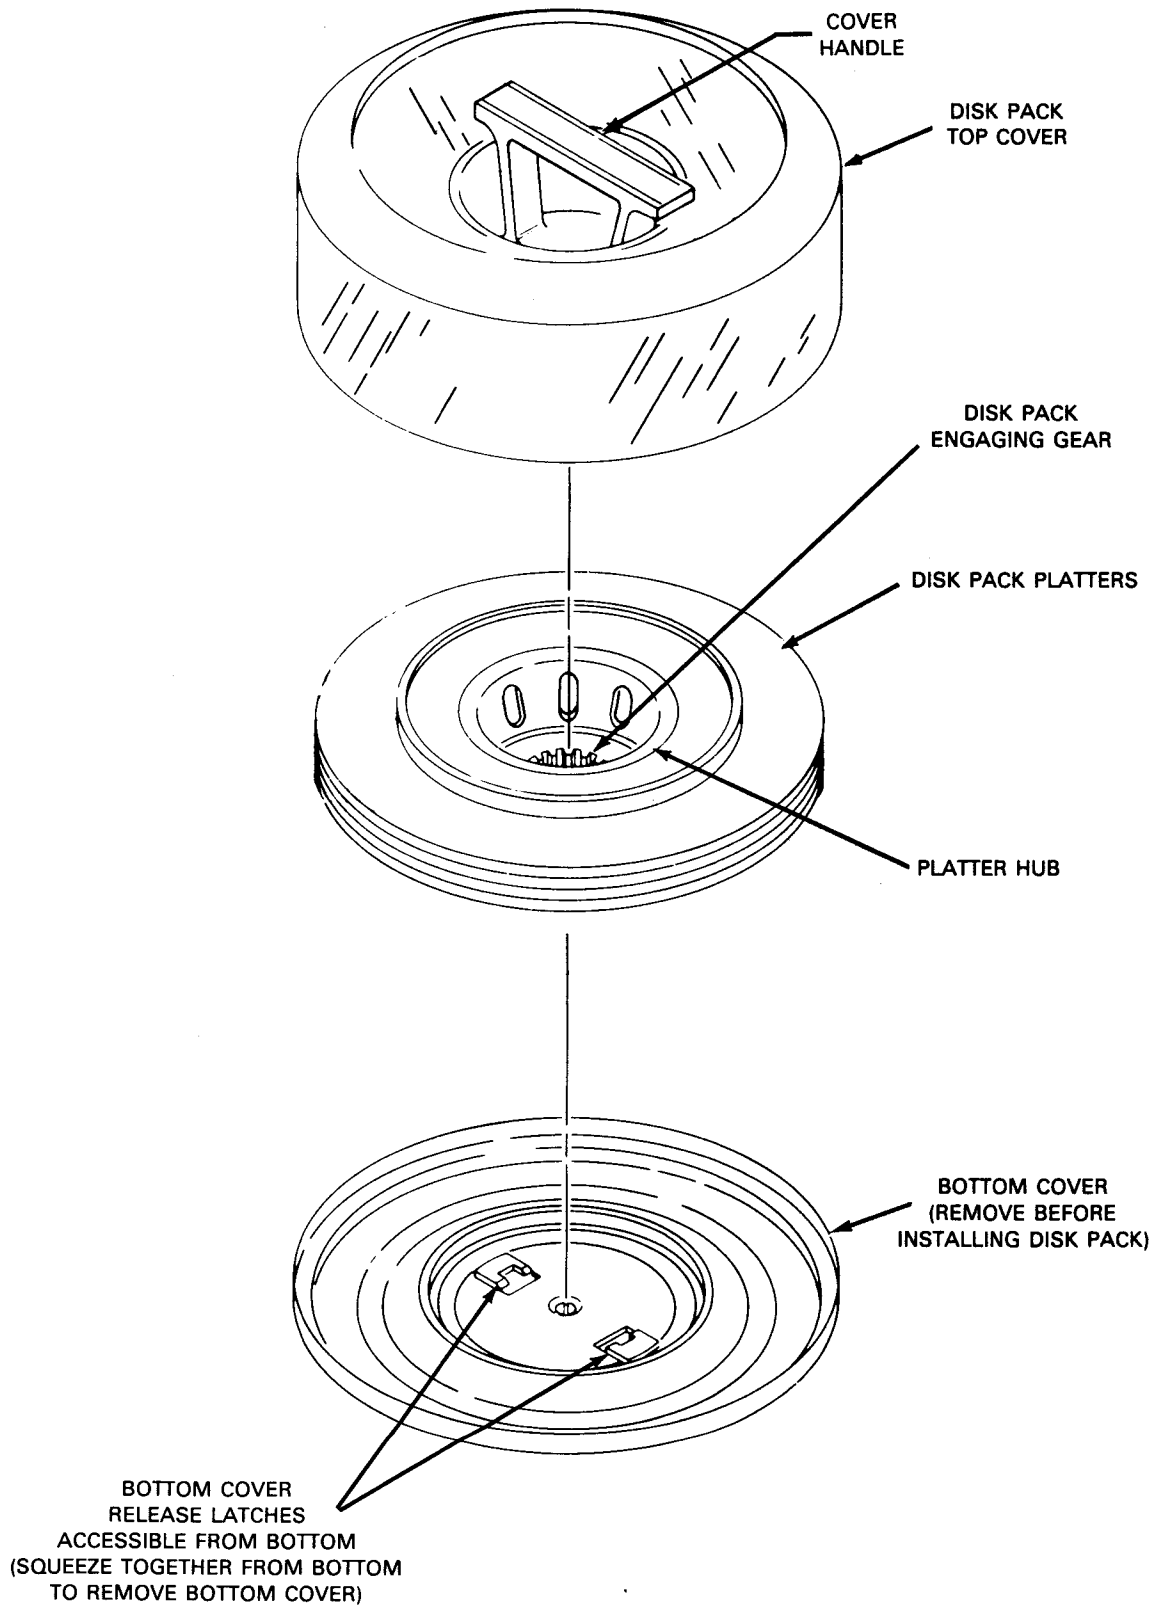

Figure 2-2. 8419 Disk Pack with Dust Cover
The disk pack consists of four disk platters mounted on a vertical hub, which engages with a drive gear on the disk drive. Bottom and top covers protect the disk pack during removal from the drive (Figure 2-2). The operator removes the bottom cover before mounting the disk pack, then the top cover after the pack is mounted. A handle on the top dust cover facilitates handling of the disk pack. The disk pack rotates at the rate of 2800 revolutions per minute (rpm) when operating.
2. Lift the disk pack to be mounted by its top cover handle. Squeeze the two bottom cover latches to remove the bottom cover (Figure 2-2).
4. Set the disk pack carefully in the well so that the drive gear in the well engages the disk pack engaging gear (Figure 2-2). When the disk pack is firmly seated, carefully rotate the disk pack (by the cover handle) in a clockwise direction until rotation stops. *Do not overtighten.*